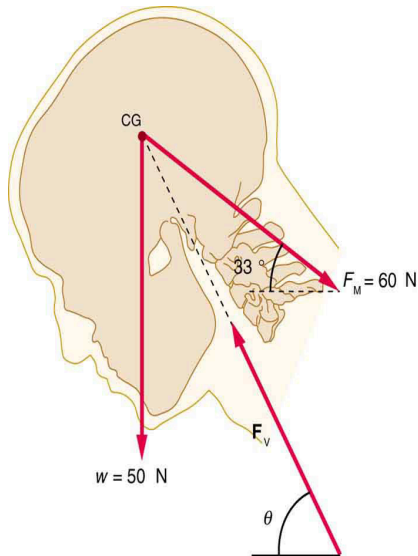

FIGURE 9.38
30. A person working at a drafting board may hold her head as shown in Figure 9.38, requiring muscle action to support the head. The three major acting forces are shown. Calculate the direction and magnitude of the force supplied by the upper vertebrae F_V to hold the head stationary, assuming that this force acts along a line through the center of mass as do the weight and muscle force.